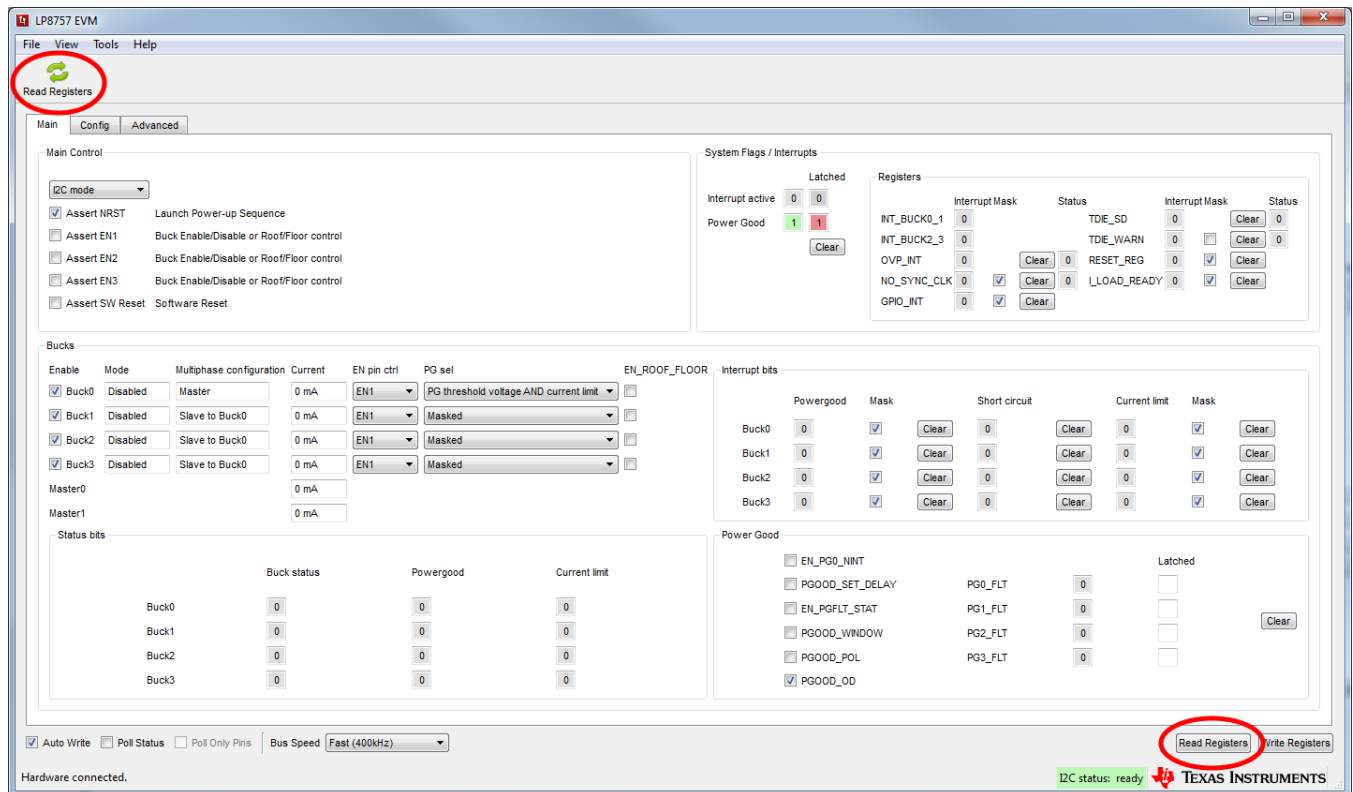

Figure 8. Read Registers Buttons
2. Click on either of the two Read Registers buttons. You should see ready message on green background next to the Read Registers button (see Figure 8).